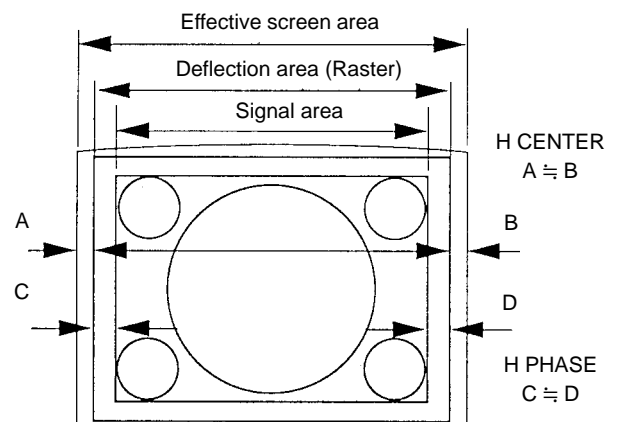

Fig. 1-6
3. Adjust the H. BLK. LEFT data to the minimum (0). Adjust the H. BLK. RIGHT data to the maximum (255).
6. Adjust the H. CENTER data so that the raster comes to the center of the effective screen ($A \approx B$ is obtained.) (Fig. 1-6)